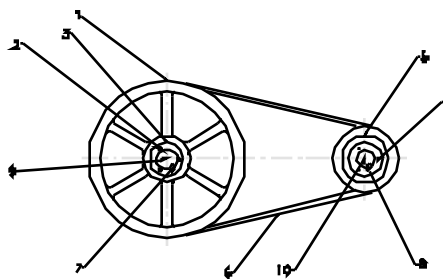

Figure 5.1 DRIVE SYSTEM
For these operations refer to the item numbers on *figures 5.1 & 5.2*
2. Remove the GRUB SCREWS (2) from the TAPER LOCK BUSHES (*figure 5.1*)